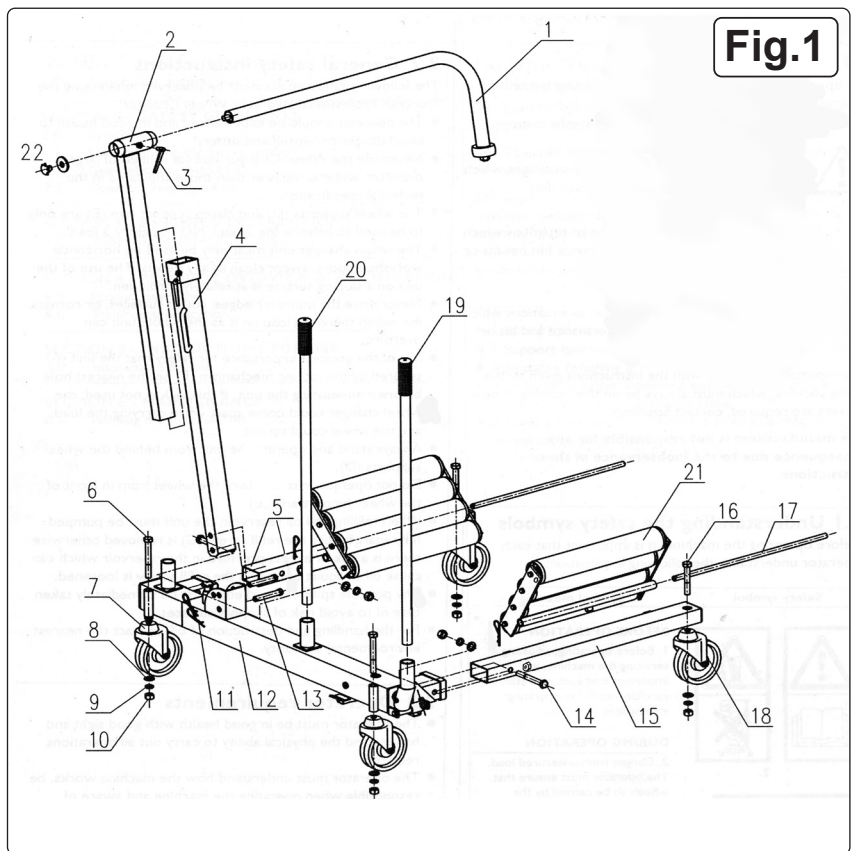

Fig.1
- ✓ Always stand and operate the wheel trolley from behind Upright Tube (4), see fig.1. Always move the Wheel Trolley using one Handle (20) in the socket on the left hand side (as viewed in the fig.1 position) and the other Handle (19) in the Socket above Lowering Pedal (A), see fig.2.
- 5.1. Refer to fig.1.
- 5.8. Fit wheel support (4) to frame (12) with handle to rear. Use pin (13) and R clip (11). Ensure R clips are on outside of frame as shown in fig.1.
- 5.10. Insert handles (19 and 20) into sockets shown in fig.1.